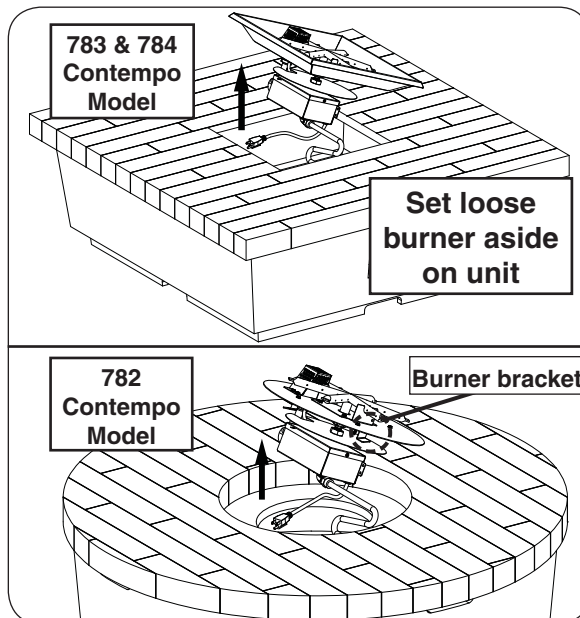

Fig. 46-1 Remove burner assy (if needed)
1. **783 & 784 Models:** Lift burner assembly from the table as shown in Fig 46-1.
**782 Models:** Use a  $\frac{5}{16}$ " nut driver to partially unfasten the four screws found on the burner assembly. Then remove the burner and set it off to the side. See Fig. 46-1.